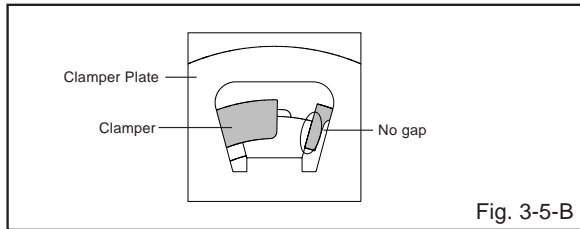

Fig. 3-5-B
3-5: CLAMPER ASS'Y (Refer to Fig. 3-5-A)
1. In case of the Clamper Ass'y installation, install correctly as Fig. 3-5-B.